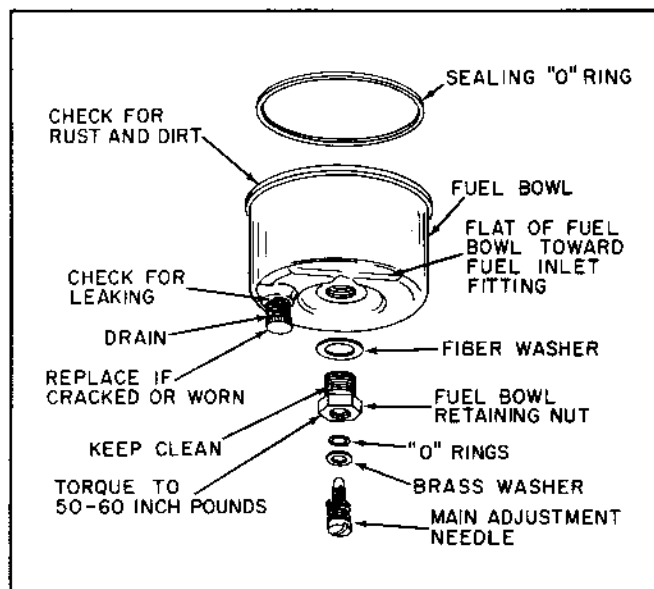

Figure 3-5
G. FUEL BOWL RETAINING NUT. Remove the fuel bowl retaining nut and fiber washer. (Fig. 3-5). Replace the washer, if cracked or worn.
(1) The retaining nut contains the transfer passage through which fuel is delivered to the high speed and idle fuel system of the carburetor. It is the larger hole closest to the hex nut end of the fitting. If a problem occurs with the idle system of the carburetor, examine the small fuel passage in the annular groove in the retaining nut. This passage must be clean for the proper transfer of fuel into the idle metering system.
(2) When replacing, torque the fuel bowl nut to 50-60 inch pounds.
H. FUEL BOWL. Fuel bowl should be examined for rust and dirt. (Fig. 3-5). Thoroughly clean before replacing. If it is impossible to properly clean the fuel bowl, replace it.
(1) Check the fuel bowl drain for leaking. Replace the rubber gasket on the inside of the drain valve.
(2) The large "O" rings (Figs. 3-5 & 3-6) sealing the fuel bowl to the carburetor body must be in good condition to prevent leakage. Examine the "O" ring for swelling or cuts. Moisten the "O" ring seal with either water or a very small amount of fuel or oil to allow the fuel bowl to slide onto the "O" ring properly. Hold the carburetor body in an inverted position and place the "O" ring on the carburetor body and then position the fuel bowl.